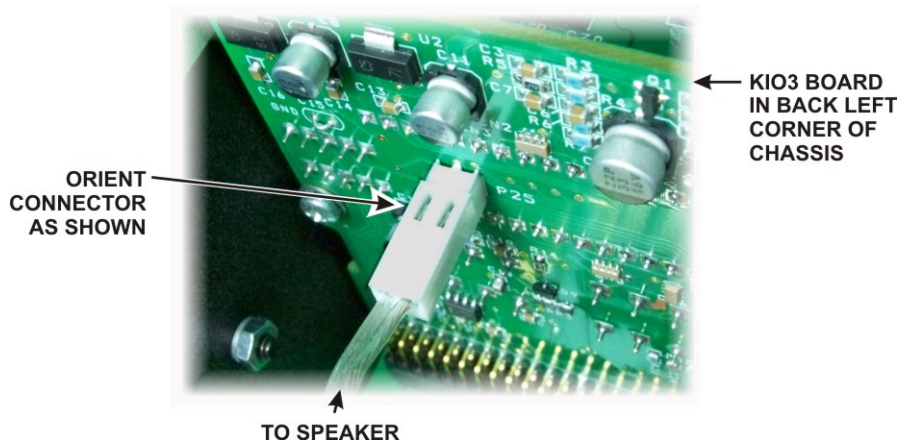

Figure 20. Connecting Speaker Cable.
- Hold the top cover above the K3, route the speaker wire under the stiffener bar and plug it into P25 on the KIO3 board at the left rear of the K3 as shown in Figure 20.